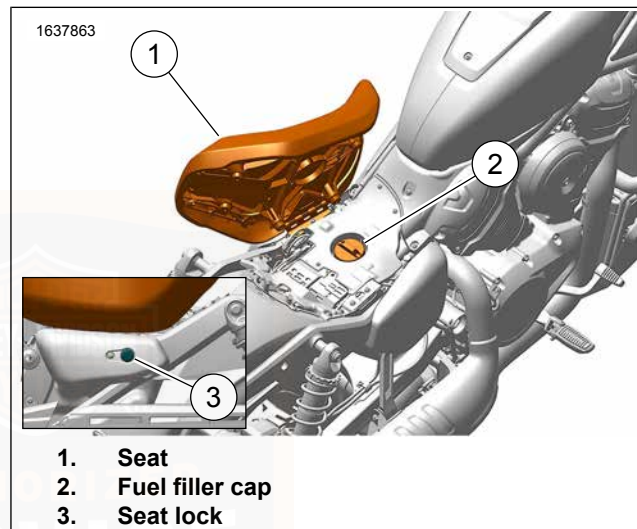

Figure 95. Fuel Fill (Under Seat Fuel Tank)
1. See Figure 95. Insert key in seat lock (3).
1. See Figure 95. Push down on seat to make sure latch is engaged.